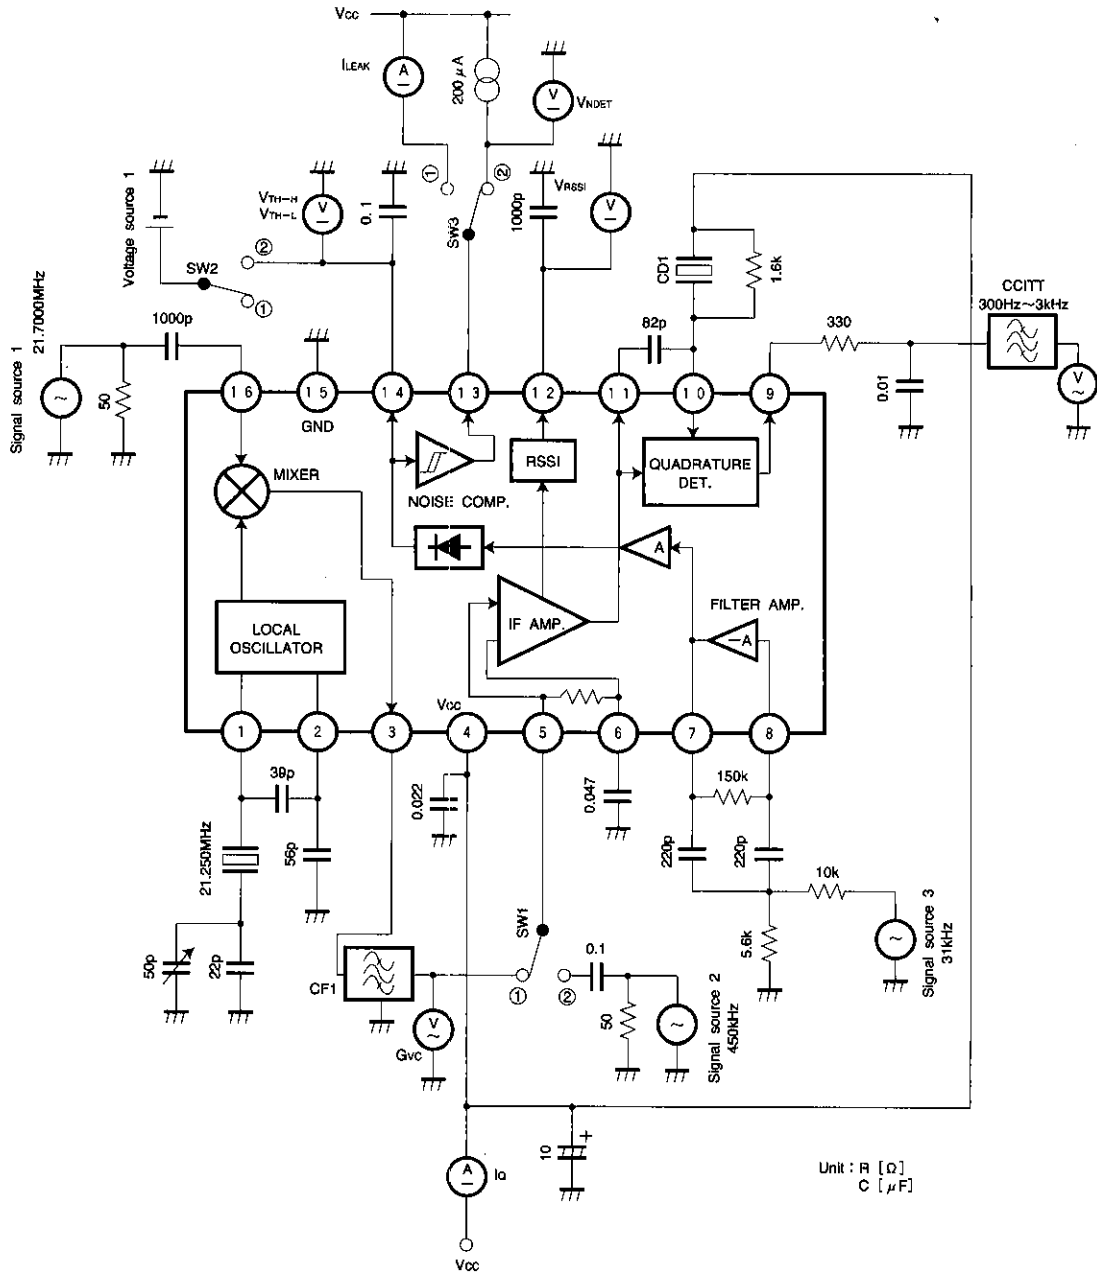

Fig. 1
| Quiescent current | Iq | 2.1 | 3.0 | 4.2 | mA | No input | Fig.1 | |
| Conversion gain | Gvc | 15 | 18 | 21 | dB | Tested after ceramic filter(-3 dB loss) | Fig.1 | |
| Audio demodulation output | Vo | 79 | 100 | 126 | mVrms | VIN (IF) =80dB μV | Fig.1 | |
| Signal-to-noise ratio | S/N | 43 | 63 | - | dB | VIN (IF) =80dB μV | Fig.1 | |
| AM suppression ratio | AMR | - | 40 | - | dB | VIN (IF) =80dB μV, AM=30% | Fig.1 | |
| RSSI output voltage | VRSS1 | 0.7 | 1.0 | 1.45 | V | Vcc=3V | VIN (IF) =50dB μV | Fig.1 |
| | VRSS2 | 1.6 | 2.3 | 2.9 | V | | VIN (IF) =100dB μV | Fig.1 |
| Output voltage | VNDT | - | 0.1 | 0.5 | V | VNREC=0.2V, ISINK=0.2mA | Fig.1 | |
| Output leakage current | I _{LEAK} | - | 0 | 5 | μA | VNREC=0.7V, VNDT=2V | Fig.1 | |
| "H" noise detection level | VTH-H | 0.5 | 0.6 | 0.7 | V | Pin 14 voltage so that VNDT ≤ 0.5 V | Fig.1 | |
| "L" noise detection level | VTH-L | 0.3 | 0.4 | 0.5 | V | Pin 14 voltage so that ISINK ≤ 5 μA | Fig.1 | |
| Noise detection hysteresis width | Hys | 2.0 | 3.5 | 5.0 | dB | Hysteresis width between VTH-H and VTH-L above | Fig.1 | |